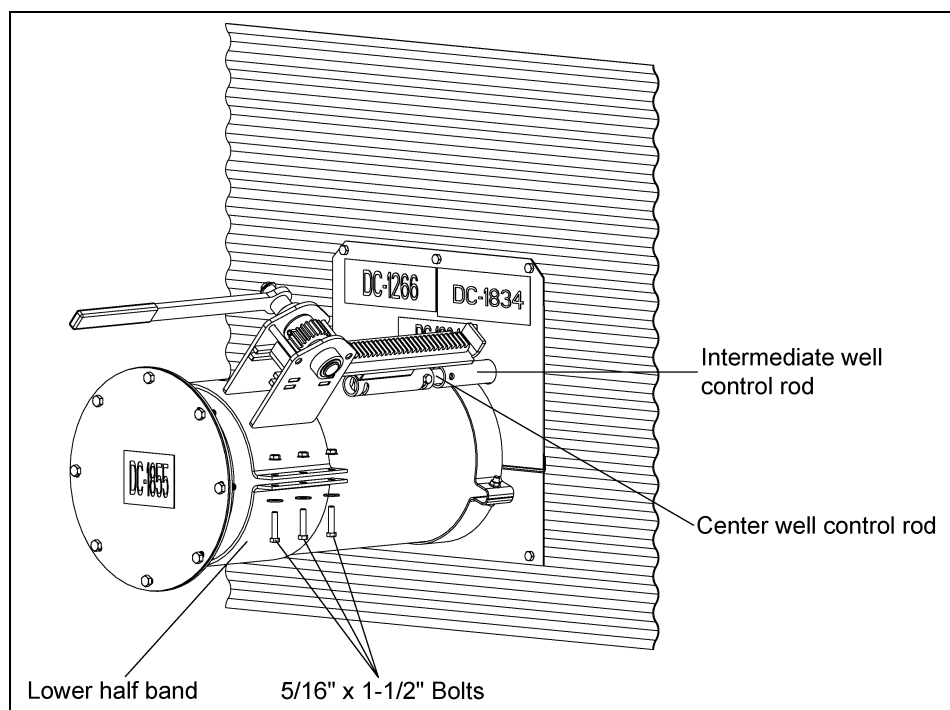

Figure 4R 8" and 10" Systems
- With rack and pinion fully extended, attach lower half band and secure to unload tube with six (6) 5/16" x 1-1/2" bolts, washers and serrated flange nuts. (See Figure 4R.)